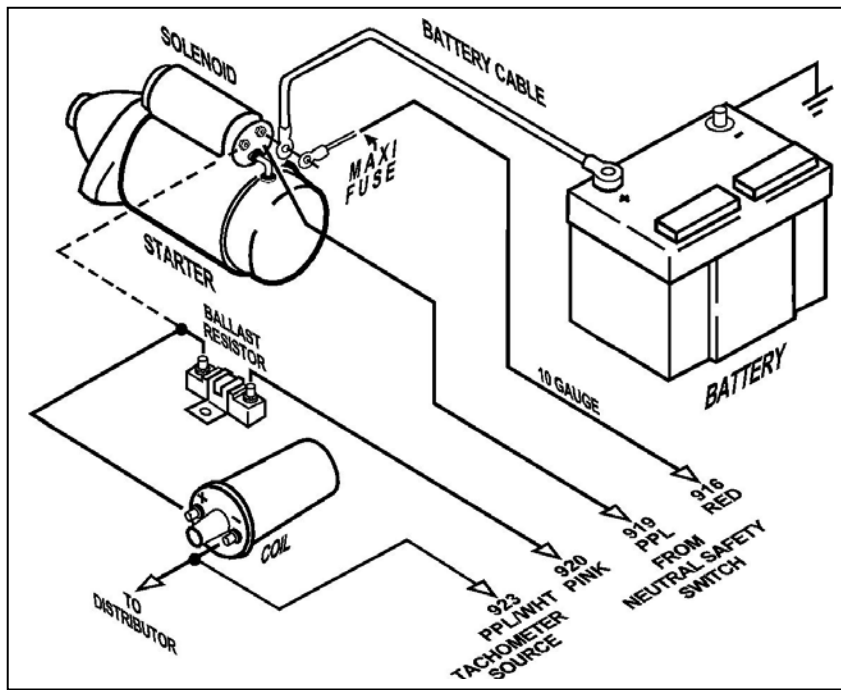

Figure 7.3 GM Ignition (Start/Run) System
7.3 GM Ignition (Start/Run) System. See Figure 7-3
- 7.3.6** A 14-gauge wire connected from the starter solenoid (I) terminal to the ignition coil side of the ballast resistor is optional. This wire (the dashed line in **Figure 7-3**) serves as a ballast resistor BYPASS during engine starting. However, if the starter solenoid shorts out, which is not unusual, the engine will stop running and will not restart as long as this wire is connected. You may therefore choose to omit it. If you are not using a ballast resistor, leave the starter solenoid ignition (I) terminal unconnected and do not install the bypass wire.